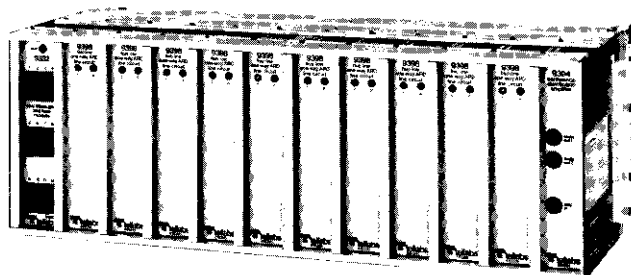

figure 1. 294 Community Alerting System
1.01 The Tellabs 294 Community Alerting System (figure 1) is a multistation ringdown telephone circuit used in emergency-reporting and disaster-alerting applications. With the 294 System, large numbers of individuals can be simultaneously alerted via their telephones when emergencies such as train derailments, floods, or dangerous weather conditions occur or threaten. Thus, the 294 System finds application serving small communities, hotels, motels, apartment buildings, condominiums, high-rise structures, hospitals, department stores, shopping malls, schools, factories, chemical and nuclear plants, and numerous other facilities whose personnel require immediate notification of emergency and/or evacuation procedures when disasters occur. Another application of the 294 System is for emergency notification of key individuals via their residential telephones. For example, police, fire department, medical, and civil defense personnel can quickly be notified at home in the event of an emergency at any time of the day or night.